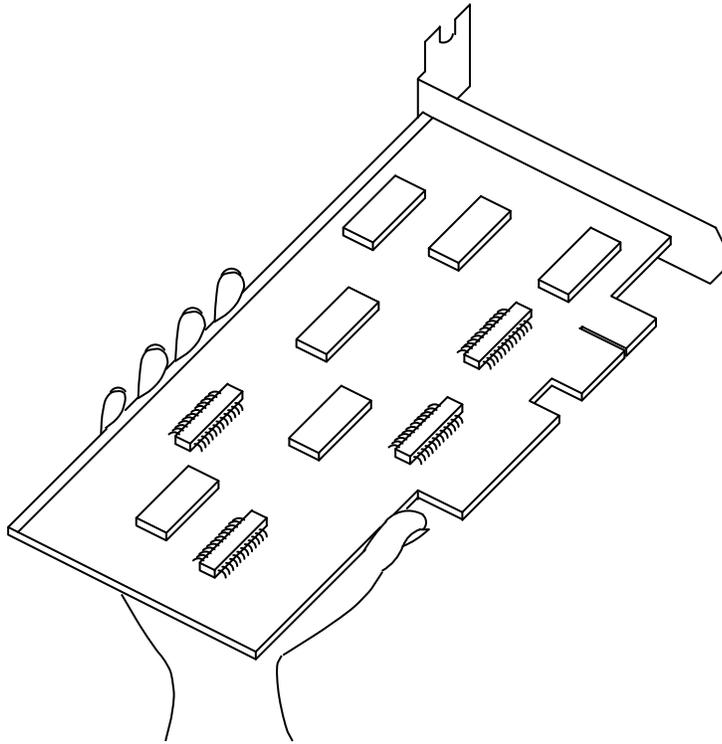

Figure 1-2. How to Hold a Long Circuit Card
- Hold a larger circuit card as shown in Figure 1-2. Ensure palm is not in contact with the board wiring side.